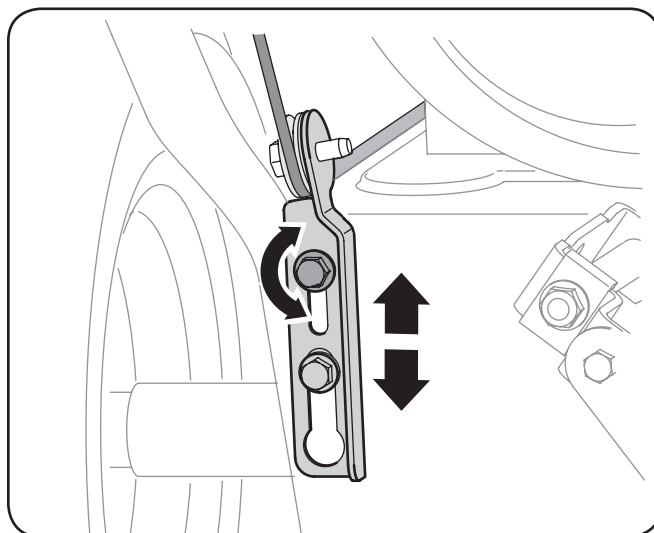

Fig. 3-17
4. Allow the auger to remain engaged for approximately ten (10) seconds before releasing the auger control. Repeat this several times.
8. Position the bracket upward to provide more slack (or downward to increase cable tension). See Fig. 3-17.